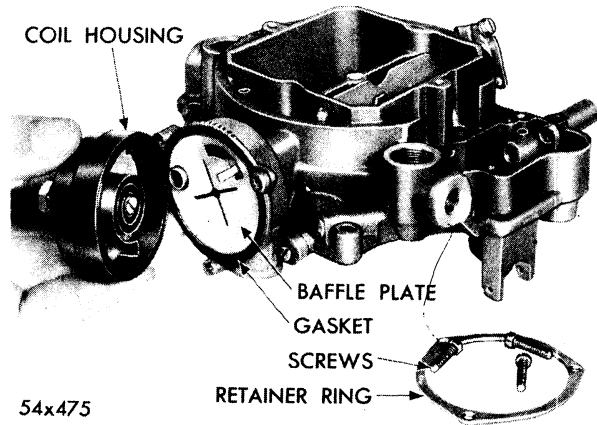

Fig. 17—Removing or Installing Thermostatic Coil Spring Housing
- (1) Remove the three screws and retainer ring that hold the thermostatic coil housing to the air horn.
- (2) Lift off the housing and thermostatic coil spring, as shown in Figure 17.
- (3) Remove the housing gasket and lift out baffle plate.
- (4) Loosen the choke shaft lever clamp screw and slide lever off end of choke shaft.